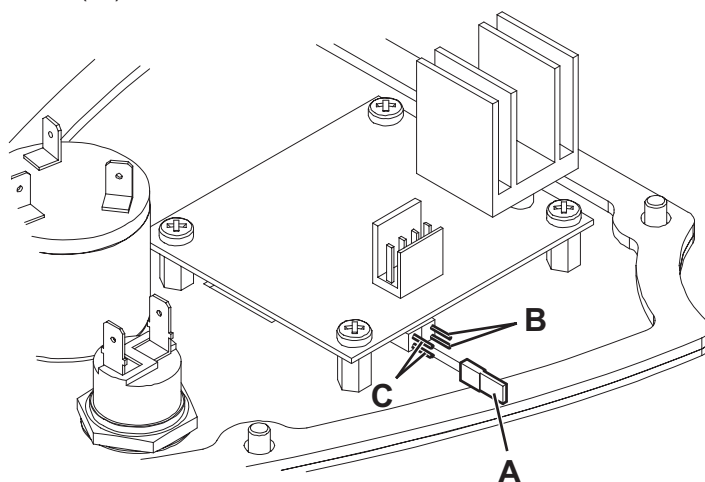

Figure 1
1. Turn the ignition key (72) to "0".
- Disconnect the battery connector (46).
- Remove the screws (83) and carefully remove the right control panel (84).
- Install a jumper wire (A, Fig. 1) on "GEL" connectors (B) for GEL/AGM batteries.
- Carefully install the control panel (84) and the relevant screws.
- Connect the battery connector (46).